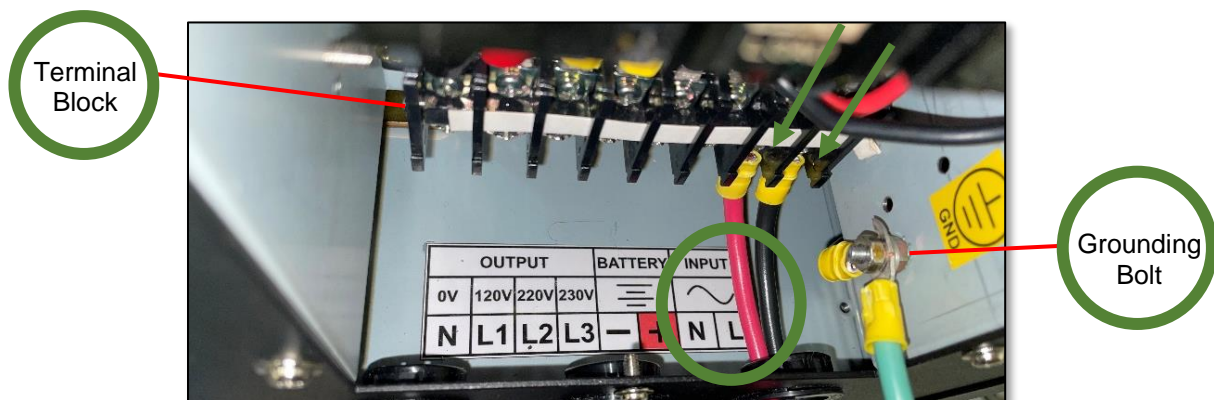

Figure 2—Terminal Block in Back of Q-MS 6 with AC Input cables and Ground connected
1. Detach the screws on the Q-MS rear panel with a screwdriver. Remove the panel to expose the terminal block (**Figure 2**).